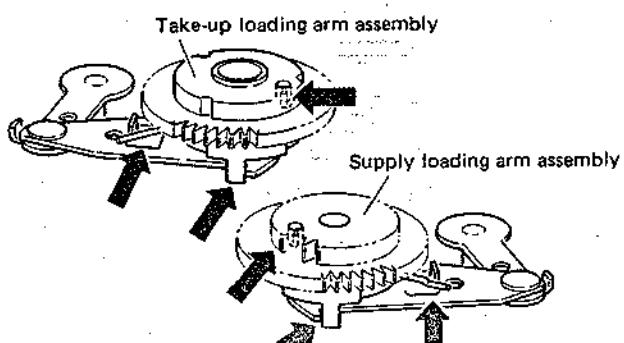

Fig. 1-3-1 Loading arm assembly (1)
- Set up the loading arm assembly correctly as shown in Fig. 1-3-1.